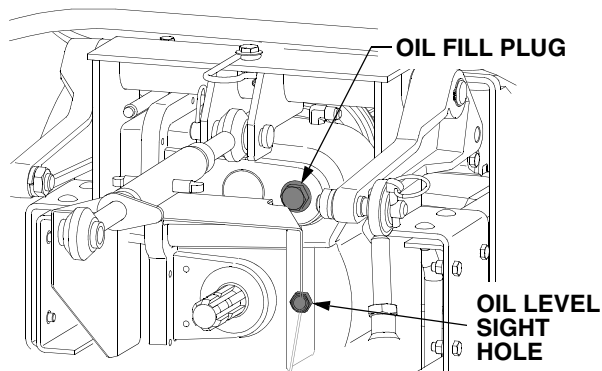
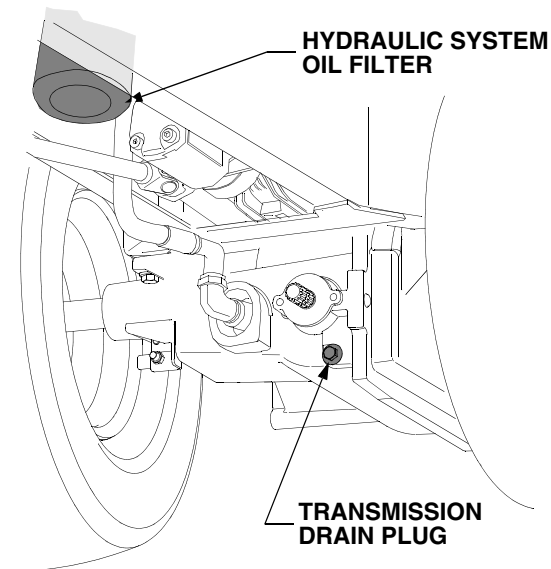

Figure 43
Figure 45
The oil level sight glass is located in the rear of the transmission housing, just to the right of the rear PTO shaft. Refer to Figure 43.
- Locate the oil fill plug on the upper right of the rear of the transmission housing. See Figure 43.
- The hydraulic system oil filter is remotely mounted in the vertical position between the tractor frame rails. See Figure 45.
- Position a suitable container below the hydraulic system filter. See Figure 45.
- Clean the area around the transmission fill plug to prevent debris from entering the transmission (Refer to Figure 43) and remove the plug.
- Clean the area around the transmission drain plug and the oil fill plug to prevent debris from entering the transmission. Refer to Figure 43 and Figure 45.
- Remove the oil fill plug to help vent the transmission, then remove the drain plug and allow the transmission oil to drain into the container(s). Reinstall the drain plug after draining the oil. Refer to Figure 43 and Figure 45.